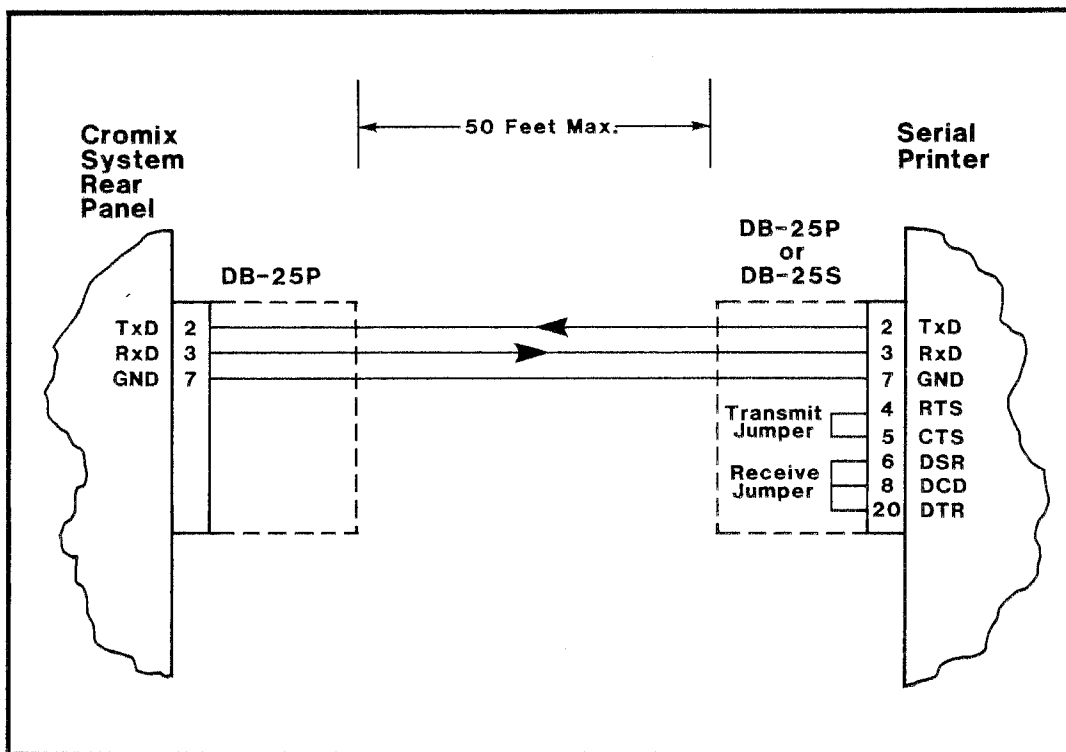

Figure 6-6: SERIAL PRINTER CABLE JUMPERS
4. Depending on the printer, you may have to fabricate a cable with one or both jumpers shown in Figure 6-6. First, consult the documentation on your serial printer.